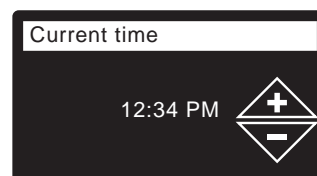

FIG. 27
19. **CURRENT TIME** Press the DOWN (▼) or UP (▲) buttons to set the current time (See Figure 27). Hold the button down to rapidly advance. Be sure that AM or PM is correct. If the system units were set to metric in Step 17, the clock will be in 24-hour format.
20. Press the SELECT (O) button.